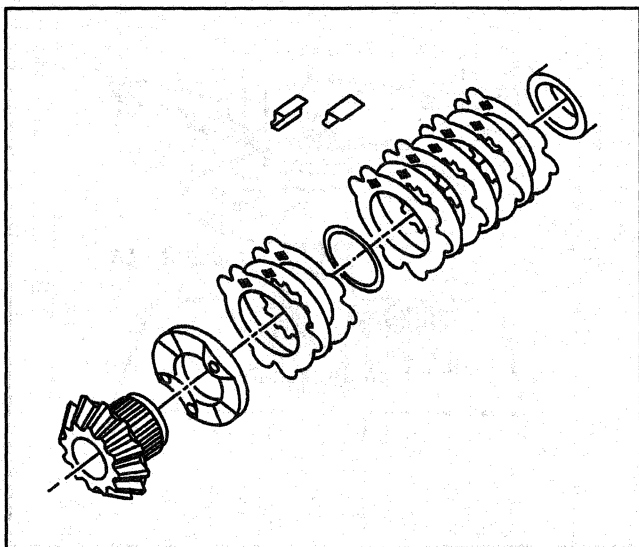

Figure 12—Cam Unit Components
- Alternate the plates and position the wave washer as shown in Figure 12.
- Alternate the plates as shown in Figure 12.